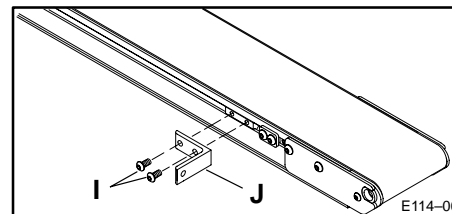

Figure 6: End Fitting Mounting Bracket Attachment Detail
- f. Select the desired mounting location and attach just the End Fitting Mounting Bracket to the Drop-in T-bar using the two (2) M6 x 12 mm Button Head Cap Screws (I) as shown in Figure 6. Tighten Screws with 4 mm Hex Key Wrench provided.